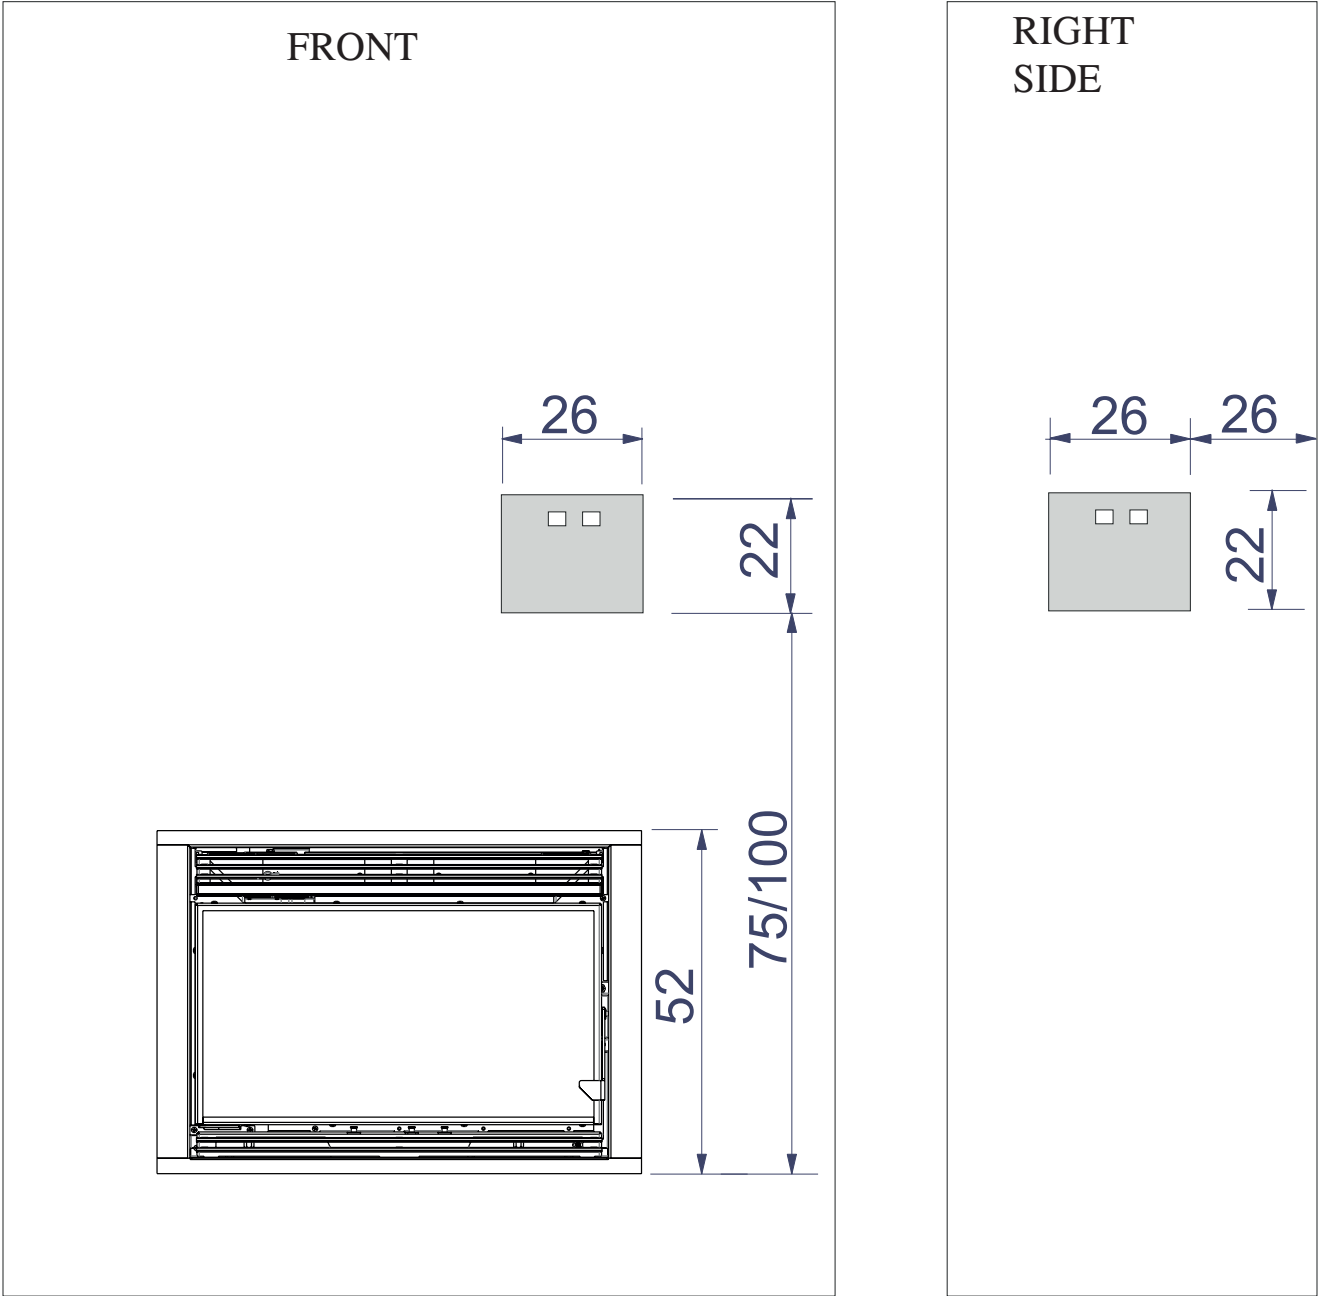

fig. 14
- Cut the tube to size and fit the end of the tube on the centring bracket (**H** - fig. 14) and fasten it using the clamps provided.